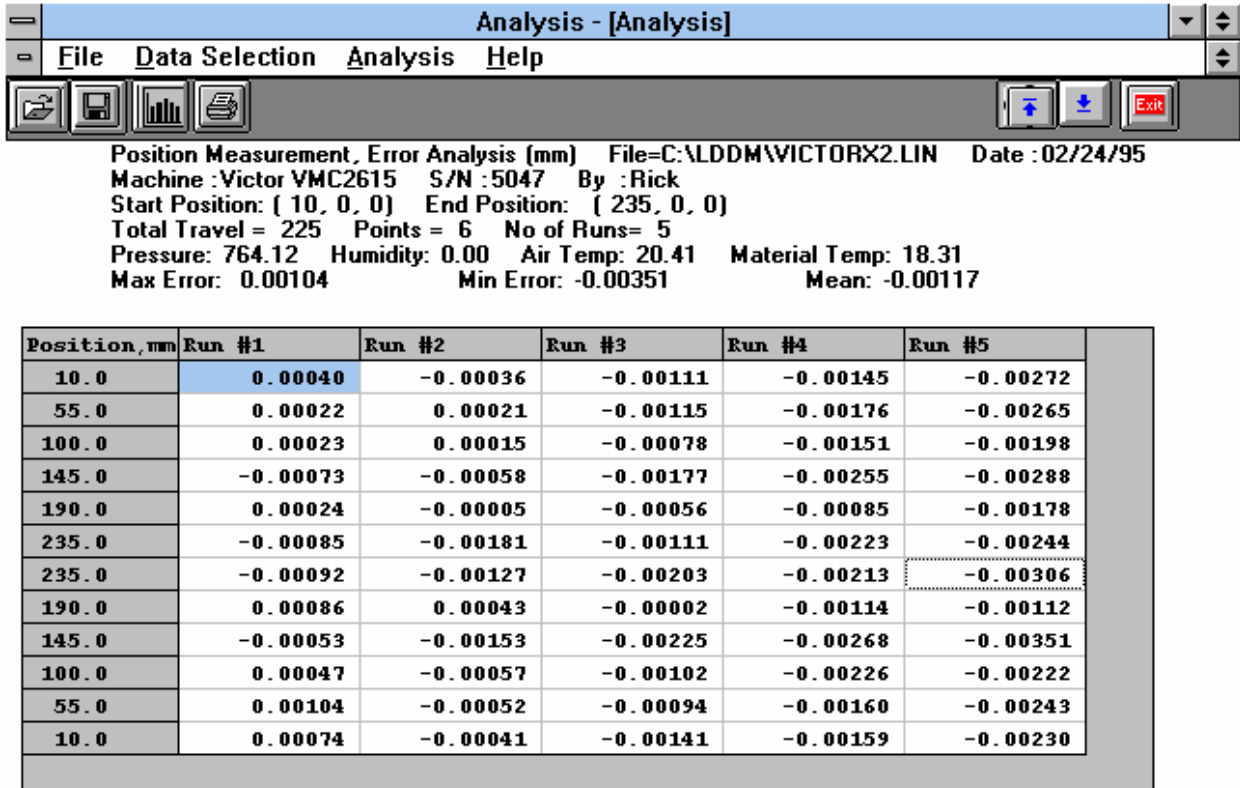

FIG.7-14 LINEAR MEASUREMENT DATA ANALYSIS TABLE
D. Linear Data Analysis Menu (Fig. 7-14)